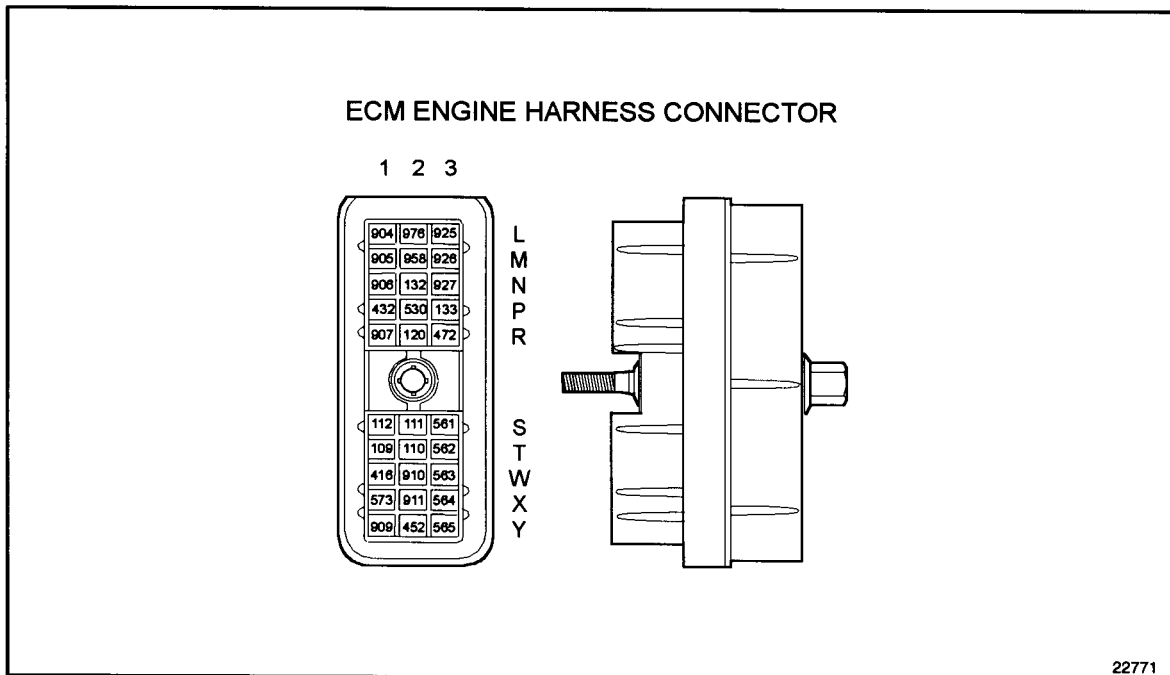

Figure 15-6 ECM Engine Harness Connector
3. Measure resistance between sockets RR2, (#120R) and Y2 (#452) on the engine harness connector. See Figure 15-6.